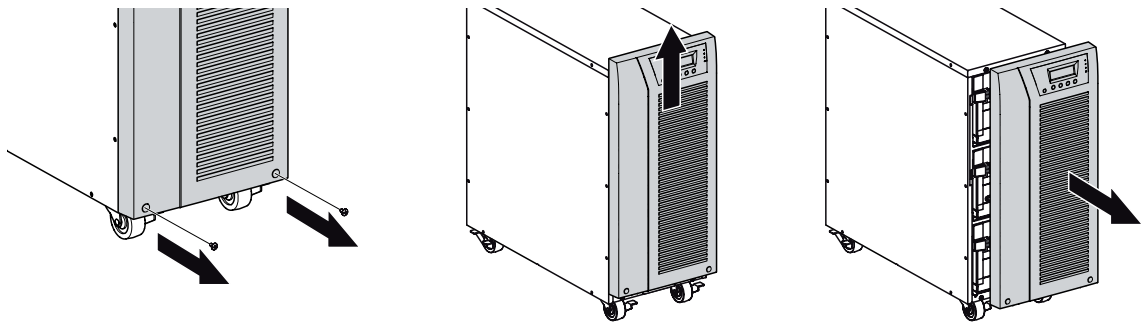

Figure 5. Removing the UPS front cover.
1. Remove the UPS front cover (*see figure 5*).